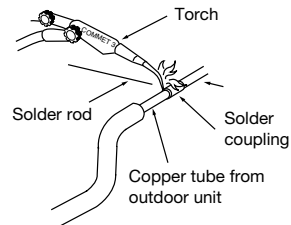

Figure 11
9. To braze the copper tube, before brazing a copper tube to a solder coupling or a copper tube to an expanded tube, do not forget to keep them tight as shown in (Figure 11, 12).